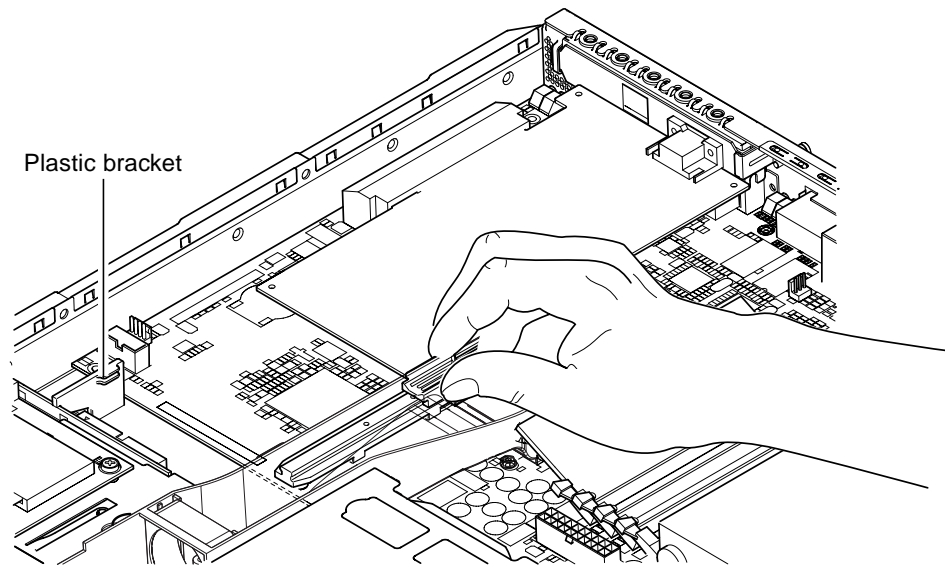

FIGURE 4-8 Using the PCI Card Retainer, Slide Support Rail, and Plastic Bracket
6. Slide the PCI card retainer into a position at the back of the PCI card to prevent excessive flexing of the board (see FIGURE 4-8).
If you are installing a full-length PCI card, insert the back end of the card into the groove in the plastic bracket shown in FIGURE 4-8; this provides extra support.
3. **Move the PCI card retainer along the PCI slide support rail until it is no longer touching the PCI card (see FIGURE 4-8).**